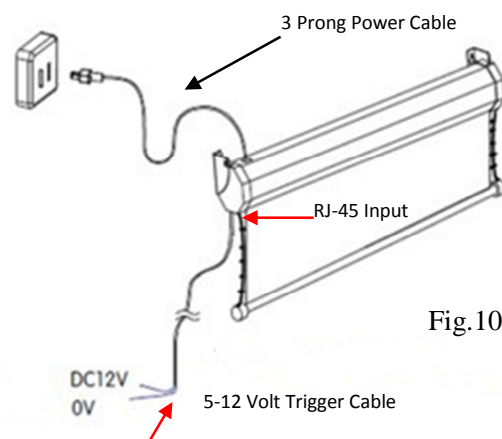

Fig.10
**1. 5-12V Trigger (Item C, Fig. 10):** The built-in 5-12V trigger input allows your screen to synchronize its drop & rise with the projector's triggering output. The screen deploys when the projector powers up and will retract when the projector powers down. The 5-12 volt adaptor connects to your projector's trigger output via a separate cable that may or may not be provided by the manufacturer of the projector. The trigger feature will not work without an output cable from the projector, but it can be tested by connecting the Red (+) and Green (-) cable to a 9-volt battery.